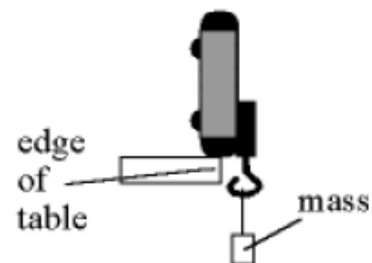

Figure 2: Hanging a mass from a force sensor.
1. The first thing you should check is that the force sensors respond in the same way to identical forces. If either sensor has a screw attached, replace the screw by a hook. Pick one cart, stand it on its end on the edge of the table with the hook hanging down (see Figure 2), and hang a mass off the hook. Check the force reading. Repeat for the other cart. If the forces have the same magnitude you can go to part II. If not you should calibrate the sensors.
- c. Now rest the cart on end against the edge of the table with the mass hanging vertically down from the hook (see figure 2). The mass has a weight of about 10 N, so enter the number 10 in the Value 2 box. When the reading shown for Input 1 is stable, click the “Keep” button.